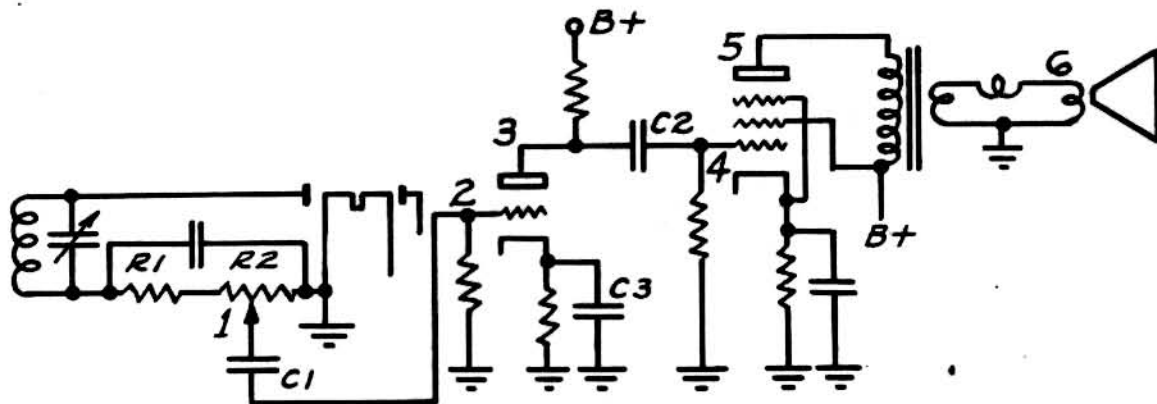

Figure 25
TESTING INOPERATIVE (DEAD) RECEIVERS—A typical detector-audio system is shown in Figure 25. After the signal has been traced to the detector with the RF-IF Channel, the audio signal should first appear across R1 and R2. The normal path of the audio signal follows in numerical order from "1" to "6."
1. Again referring to Figure 25, adjust the "AF" level control for maximum sensitivity by turning the knob to "1" and the multiplier switch to "0.1."
1. Adjust the "AF" level control for maximum sensitivity and place the AF probe (green cable) on "1" (Figure 25). Keep the signal generator output low to avoid overloading any stage under test. If distortion is noted at "1," check R1 and R2. An appreciable increase in resistance of either causes distortion. Also check the by-pass condenser and connections.
—Defective ground connections are readily located by following the usual signal tracing procedure. When the cause of unsatisfactory performance has been localized to one particular stage, checking each component at the point where it connects to ground, will tell whether or not a poor ground connection exists. Referring to Figure 25, let us assume that an audio voltage is